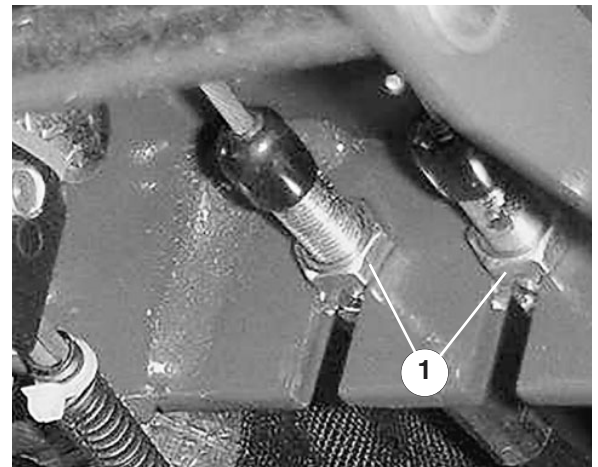

Figure 44
1. To reduce free travel of the turn pedals—tighten the brakes—loosen the front nut on the threaded end of the brake cable (Fig. 44). Then tighten the rear nut to move the cable backward until the turn pedals have 13 to 25 mm of free travel. Tighten the front nut after brakes are adjusted correctly.